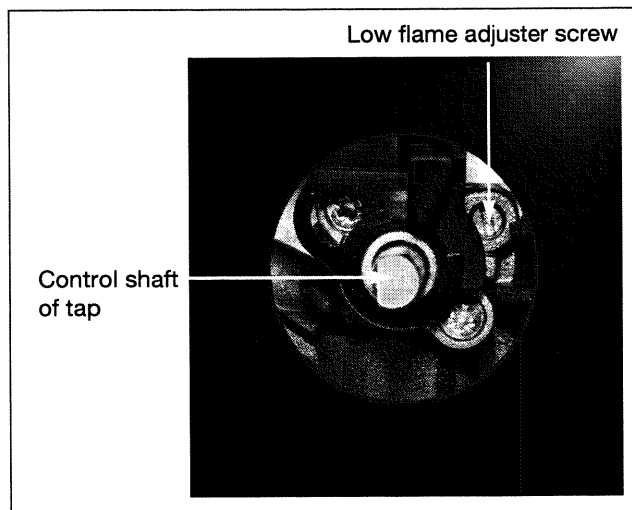

Fig. 5
- Using the small screwdriver, supplied in the bag, screw fully the brass, adjustment screw (yellow) (fig.5) clockwise
- using the screwdriver, supplied in the bag, unscrew the yellow, brass, adjustment screw (fig.5) **turning it round twice, anti-clockwise**